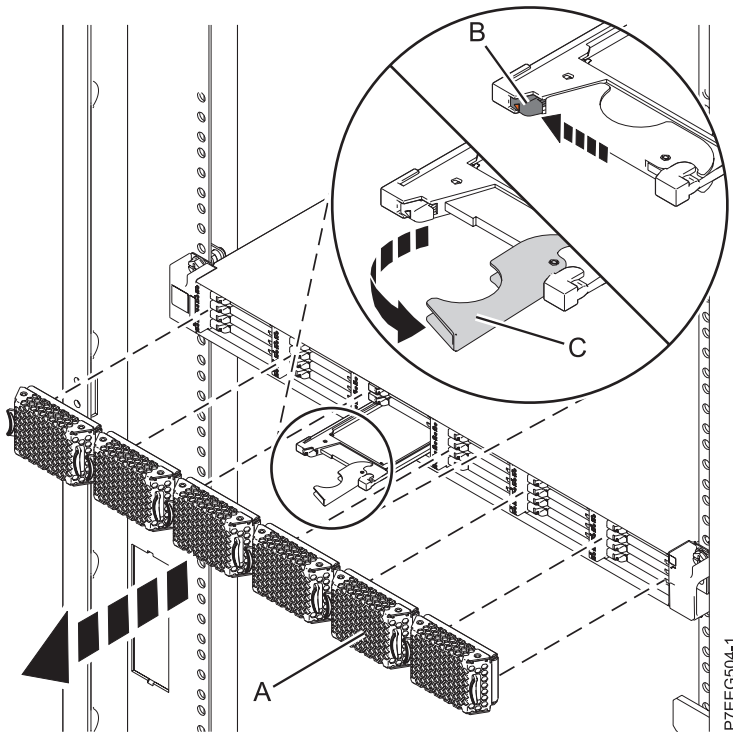

Figure 25. Removing the solid-state drive from the EDR1 PCIe storage enclosure
1. Pull off the bezel (A) that covers the slot containing the solid-state drive.
2. Slide the release latch (B) over gently to unlock the drive handle. See Figure 25 on page 40.
4. When the solid-state drive identify LED flashes, grasp the handle (C), and pull the drive partially out of the slot.